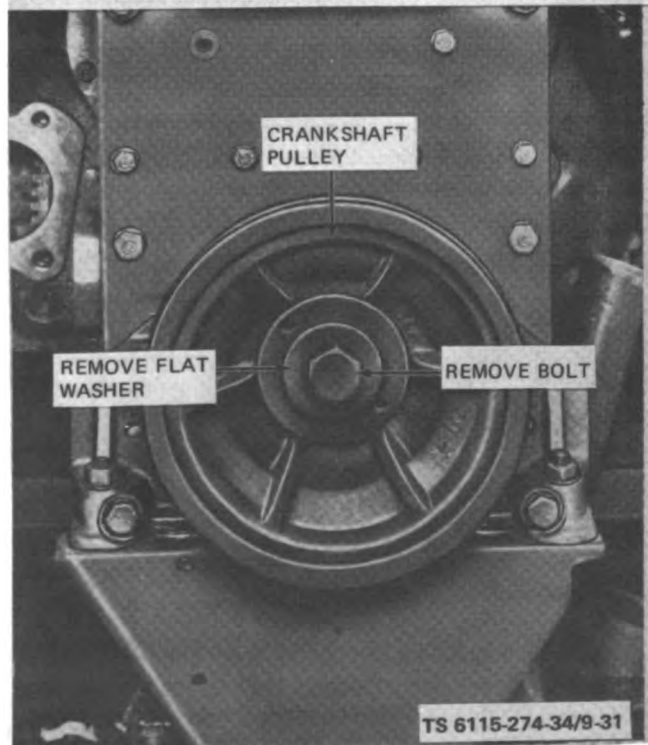
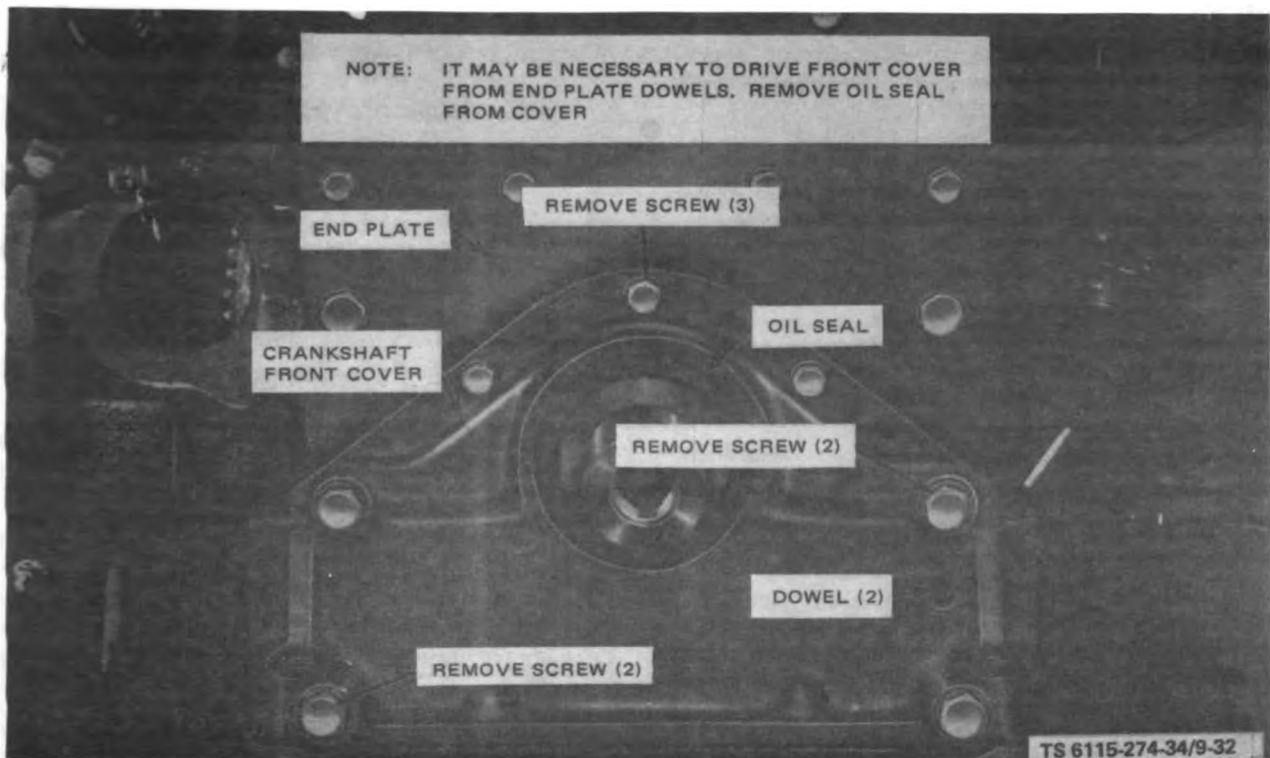

Figure 9-31. Crankshaft Pulley, Removal and Installation
Figure 9-32. Crankshaft Front Cover, Removal and Installation
(85) Remove screws holding bracket to engine and remove bracket and rectifier.
(86) Remove bolt and flat washer (fig. 9-31).
(87) Remove crankshaft pulley.
(88) Remove two Woodruff keys from crankshaft.
(89) Remove screws from around perimeter of crankshaft front cover (fig. 9-32).
(90) Remove front cover.
- (13) Install nipples, elbow and grommet.
- (14) Install pipe connector.
- (15) Install pipe plug and service crankcase with proper oil.
- (16) Attach oil seal to crankshaft front cover (fig. 9-32).
- (17) Install front cover and attach with screws.
- (18) Install Woodruff keys and pulley onto crankshaft (fig. 9-31).
- (19) Install flat washer and bolt.